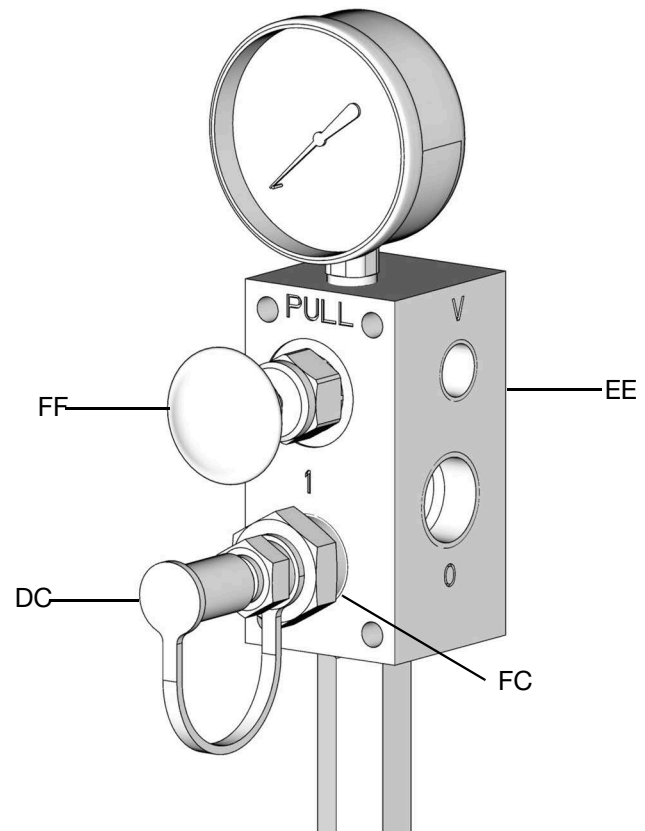

FIG. 15
3. Remove the dust cover (DC) from the fill coupler (FC) on the fill valve (EE) (FIG. 15).
4. Connect the refilling line (GG) between the remote fill station pump (AA) and fill coupler (FC) port marked with an "I" (FIG. 15).
10. Disconnect the refilling line (GG) from the fill coupler (FC) (FIG. 15).
11. Replace the dust cover (DC) over the fill coupler (FC).